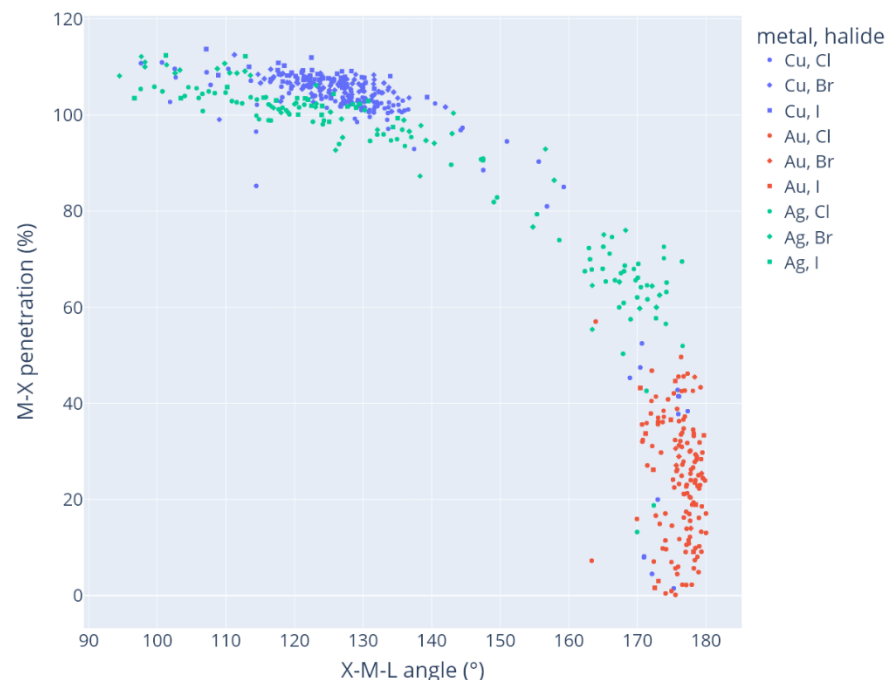

Figure 2. Plot of X-M-L angle vs M...X percentage penetration.
- Calculate the penetration indices for the data, using the values in Table 1, and plot these against the L-M-X angles (see Figure 2).